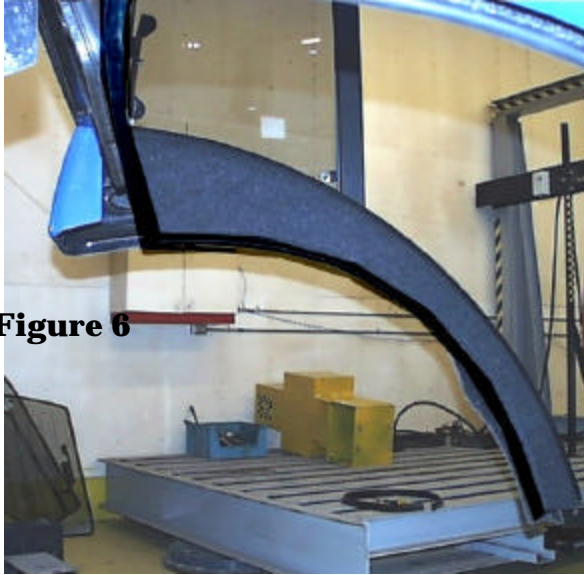

Figure 6
8. Take the two cab lift brackets and attach to the cab frame through the hole provided in the frame above the B-Post. Take the 180° O-rubber and starting in the left corner near the bottom of the door, slide the O-rubber onto the steel panel, and work your way around the cab until you reach the same position on the right side of the cab. See Figure 6.